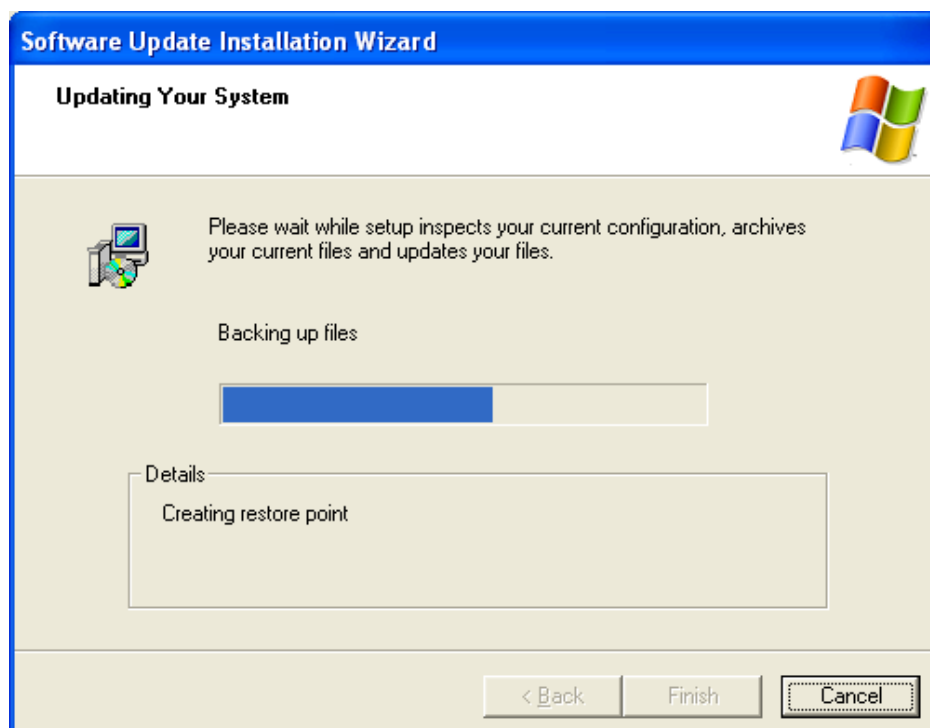

Figure 7-24: System Update
Step 5: The system updates. See **Figure 7-24**.